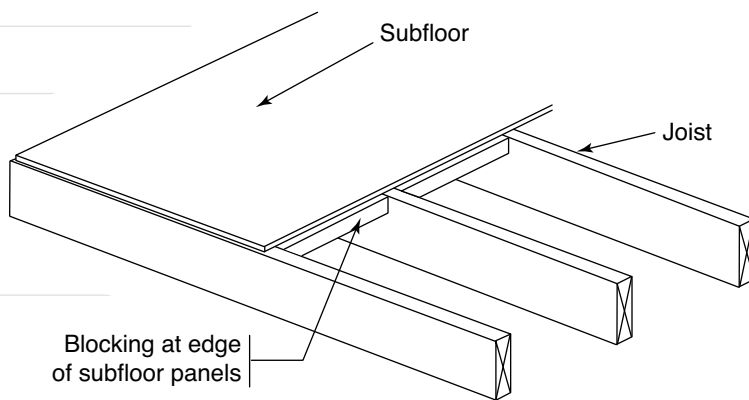

FIGURE 30
- ◆ It is recommended that you install blocking at all panel edges when using either tongue-and-groove subfloor panels or square-edged panels. This will provide a more solid base upon which to install the underlay (see Figure 30).